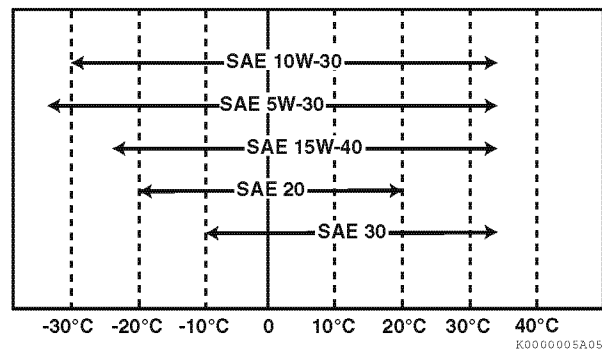

Figure 23
- Select the oil viscosity based on the ambient temperature where the engine is being operated. See SAE service grade viscosity chart (Figure 23).
Select the appropriate engine oil viscosity based on the ambient temperature and use the SAE Service Grade Viscosity Chart in Figure 23.